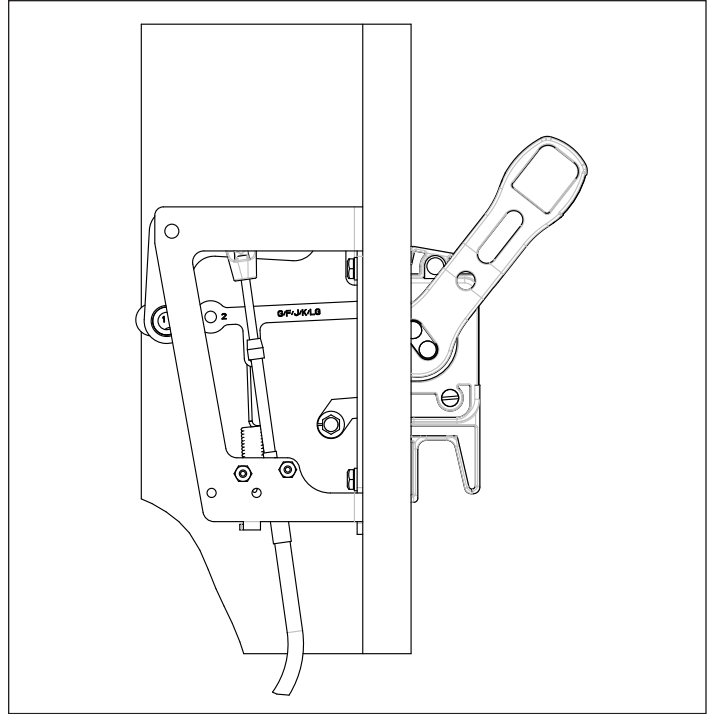

Figure 6. Assembly of spring to toggle mechanism.
6. Connect the long end of the spring through hole in handle actuator link. Hook the shorter end of the spring into the tab on the lower portion of the toggle mechanism (see Figure 6).